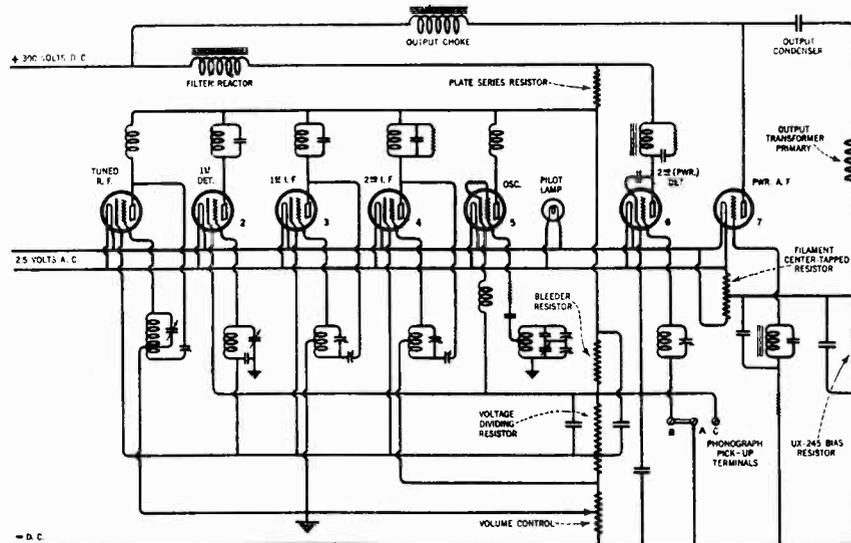
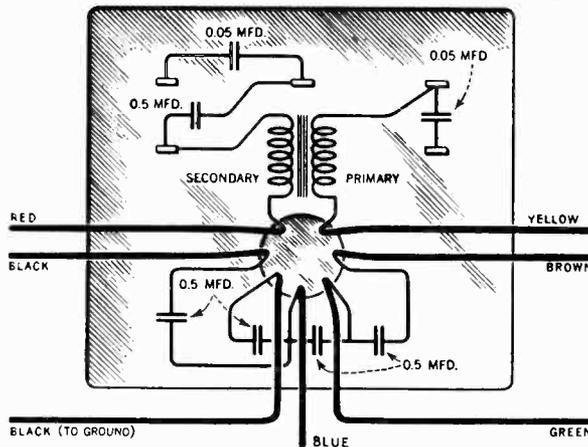
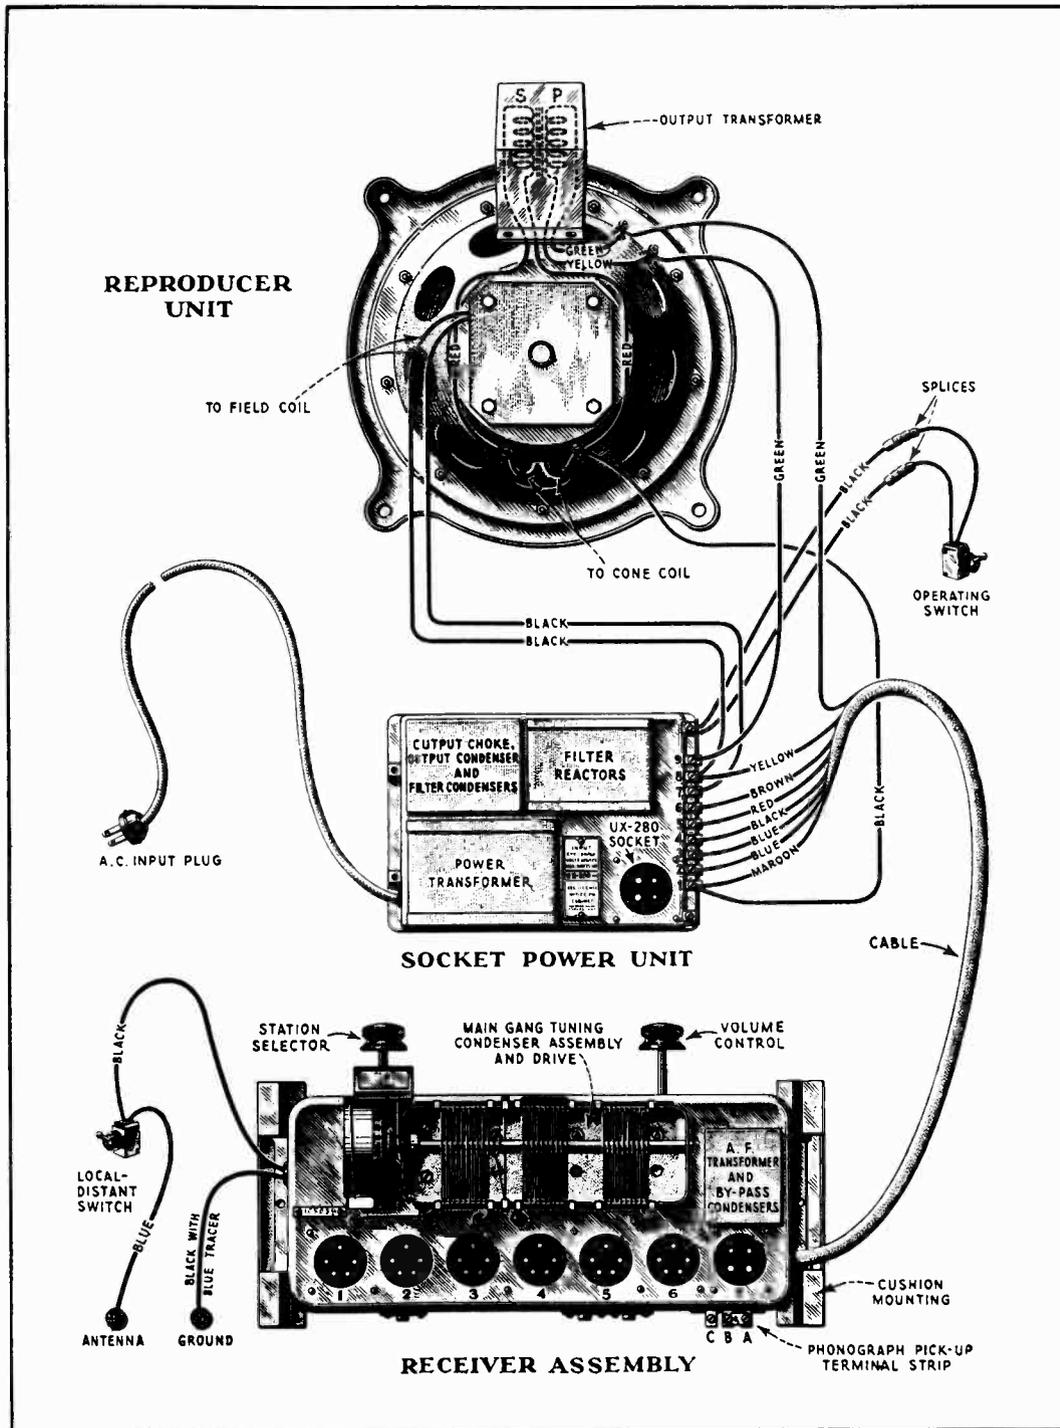
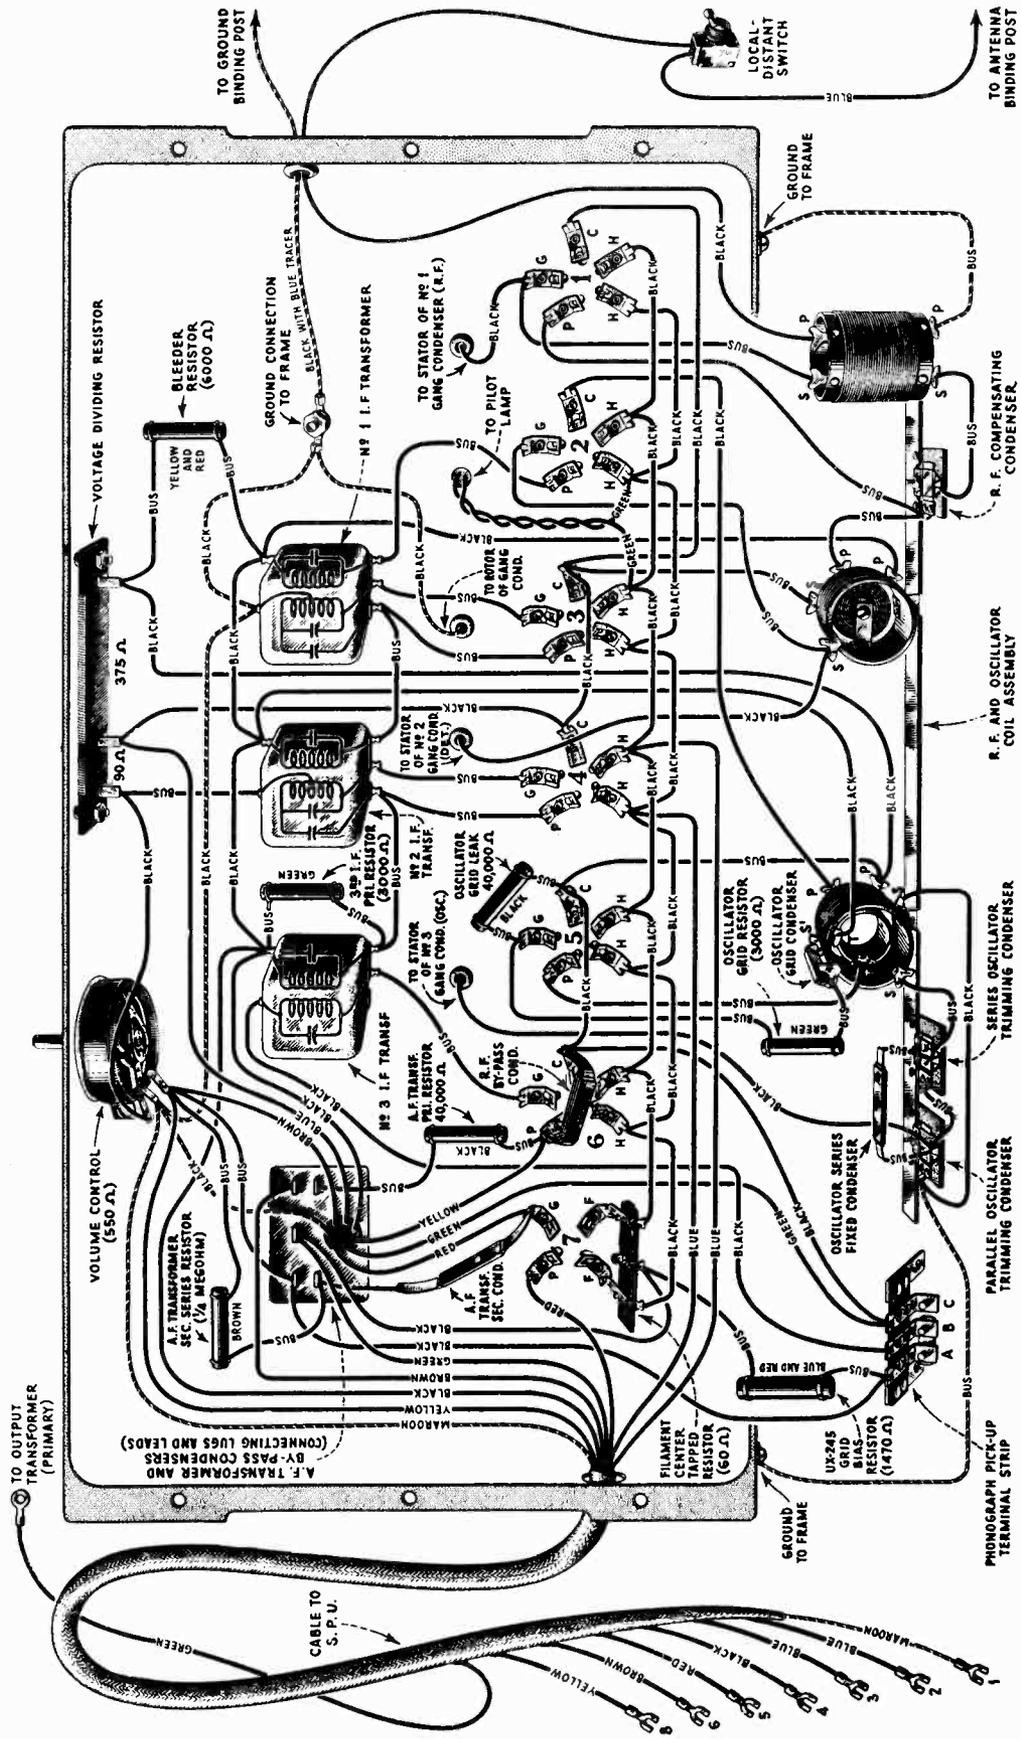

Figure 19—Schematic circuit diagram of the voltage supply system
Figure 20—Internal connections of audio transformer and by-pass condensers
Figure 22—Radiola 66 cable connections, socket contacts, reproducer unit, socket power unit and receiver assembly
Figure 23—Continuity diagram of receiver sub-class
With the test oscillator shown, the two red output leads of the receiver chassis that normally go from the secondary of the output transformer to the cone coil (See Figure 22) should be removed and connected to the output or meter terminals of the oscillator with the clips provided and meter switch thrown to dynamic ("Dyn") position. If the test oscillator is not used, a 0-5 D.C. milliammeter or a 0-2 D.C. milliammeter with 15,000 ohms in series should be connected in series with the brown lead that connects to lug No. 6 (See Figure 22) on the terminal strip. This places the meter in series with the plate supply of the second detector and serves as a very good resonance indicator, as does also the other mentioned method. The speaker cone coil may be connected at any or all the time if the connection assists in any way in tuning to the modulated output of the test oscillator.
Figure 20 shows the internal connection to external lugs of the single audio transformer and by-pass condensers as well as the correct color coding of the external leads with their correct internal connections.
The output transformer also can be tested for continuity by applying methods as outlined in Part III, Sections 4 and 7. The connections for the above parts of the reproducer assembly are clearly shown in Figure 22.
Figure 19 shows the method of obtaining the plate, grid, cathode and heater voltages and the high voltage field current from the main source. However, in order to give the service man a complete continuity picture of the voltage circuits it is not abridged, but drawn actually as it is found in the Radiola 66, so that the tracing of voltages and currents are actually done, through the various component parts affected, as shown schematically in a straight line manner.
The following voltages taken at each Radiotron socket with the receiver in operating condition should prove of value when checking with test sets such as the Weston Model 537, Type 2, or others giving similar readings. The plate currents shown are not necessarily accurate for each tube, as the cable in the test set will cause some circuits to oscillate, due to its added capacity. Small variations of voltages will be caused by different tubes and line voltages. Therefore the following values must be taken as approximately those that will be found under varying conditions. The numbers in column 1 indicate the tube socket numbers shown in Figure 22.
In making a continuity test whether it be for the complete receiver, S.P.U., or individual parts, as the internal connections and windings of the A.F. transformer shown in Figure 20, or checking the continuity of the I.F. transformers by referring to Figure 23 for schematic representation, the following procedure is recommended:
A pair of headphones with at least  $4\frac{1}{2}$  volts in series, or preferably a voltmeter with sufficient voltage to give a full scale deflection when connected across the battery terminals should be used in making these tests, for example, a 0-50 volt meter with a 45 volt "B" battery. The receiver Radiotron socket contacts, numbers and lugs used in these tests are shown in Figure 22. The receiver continuity wiring diagram is illustrated in Figure 23. The S.P.U. terminal numbers are shown in Figures 6 and 24. The voltage supply schematic (Figure 19) will also be a help in studying continuity.
The R.F. and oscillator coil windings are coded (P) representing primary, (S) secondary, (S') secondary center-tapped, and (T) tertiary or oscillator plate coil. Refer to Figure 23.
Remove all Radiotrons and disconnect cable at terminal strip. Remove all ground connections. Remove pilot lamp. See Figure 22 for cable lugs, terminals, and Radiotron socket contacts. For convenience coloring of lugs as well as numbers are shown. Code—Maroon (M), Black (Bla), Blue (Blu), Red (R), Brown (Br), Yellow (Y), Green (G). **First**—Inspect all connections to observe any apparent faulty connection, rosin soldered joint, grounded or shorted lugs. Any connection removed or insulated as outlined below should be replaced before the next successive test.
In testing for grounds that occur due to defective wiring or assembly, it is necessary to remove all the correct grounding connections in order to discover the wrong grounded part. This can readily be done by temporarily freeing the grounded leads to the frame as indicated by the broken line in the wiring diagram Figure 23, and insulating the rotating arm of the volume control by slipping a bit of paper between the arm contact and the resistance strip.
- (j) Remove the old volume control and fasten the new one in position by means of the two machine screws and nuts, and resolder the connections. The correct connections of these leads are shown in Figure 23.
- (e) Resolder all connections in their correct position on the assembly. This is shown in Figure 23.